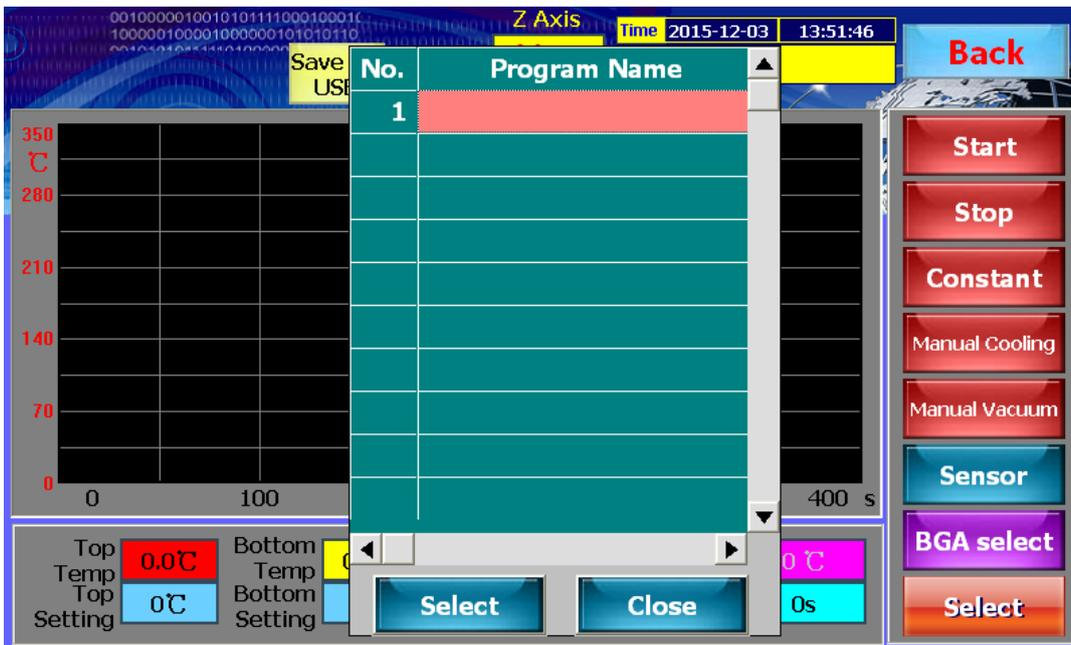
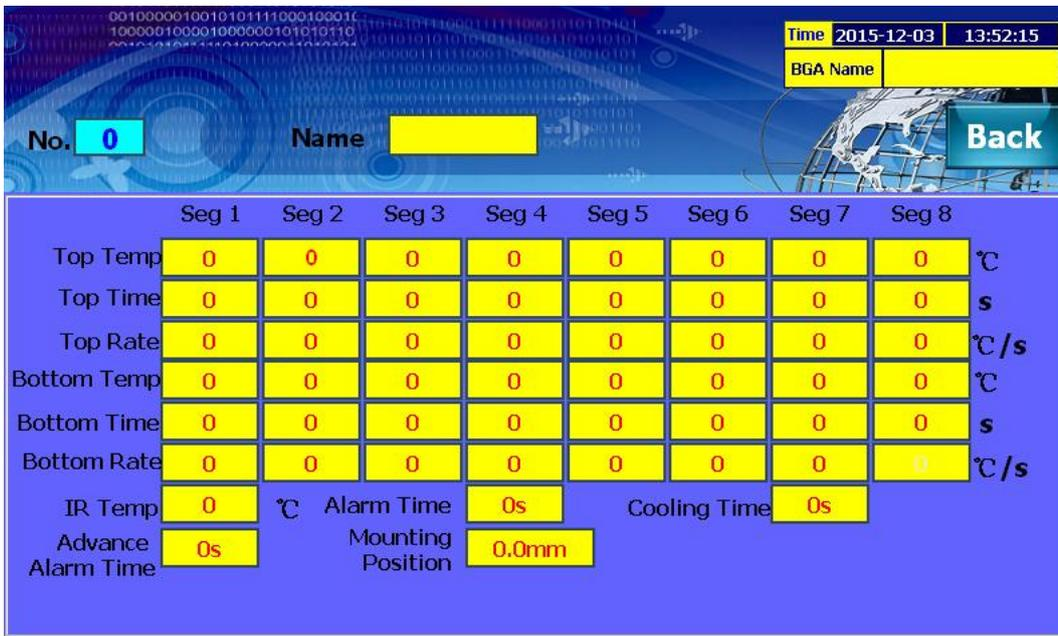

Figure 14
Figure 15
**BGA options:** Select the data stored in the database, click the button to pop up a list of stored data and information sub-window (BGA choice, as Figure 14), then click the data group name (the text will become red color after selected), and then click “select” button at the window, the selected data will automatically switch to the interface in Figure 15, this set of data is the operating parameters; in the Figure 15 screen click on the "Back" button, the screen switches back to Figure 13